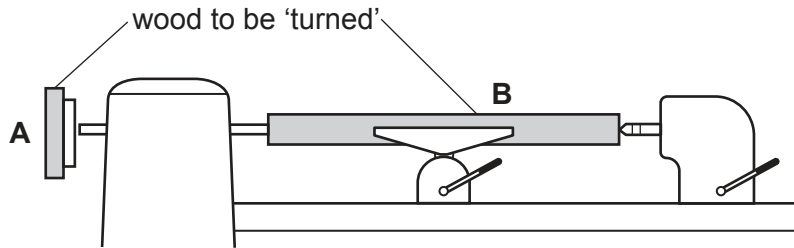

Fig. 7.1
- 7 Fig. 7.1 shows two pieces of hardwood, **A** and **B**, set up, ready to be ‘turned’ on a woodturning lathe.